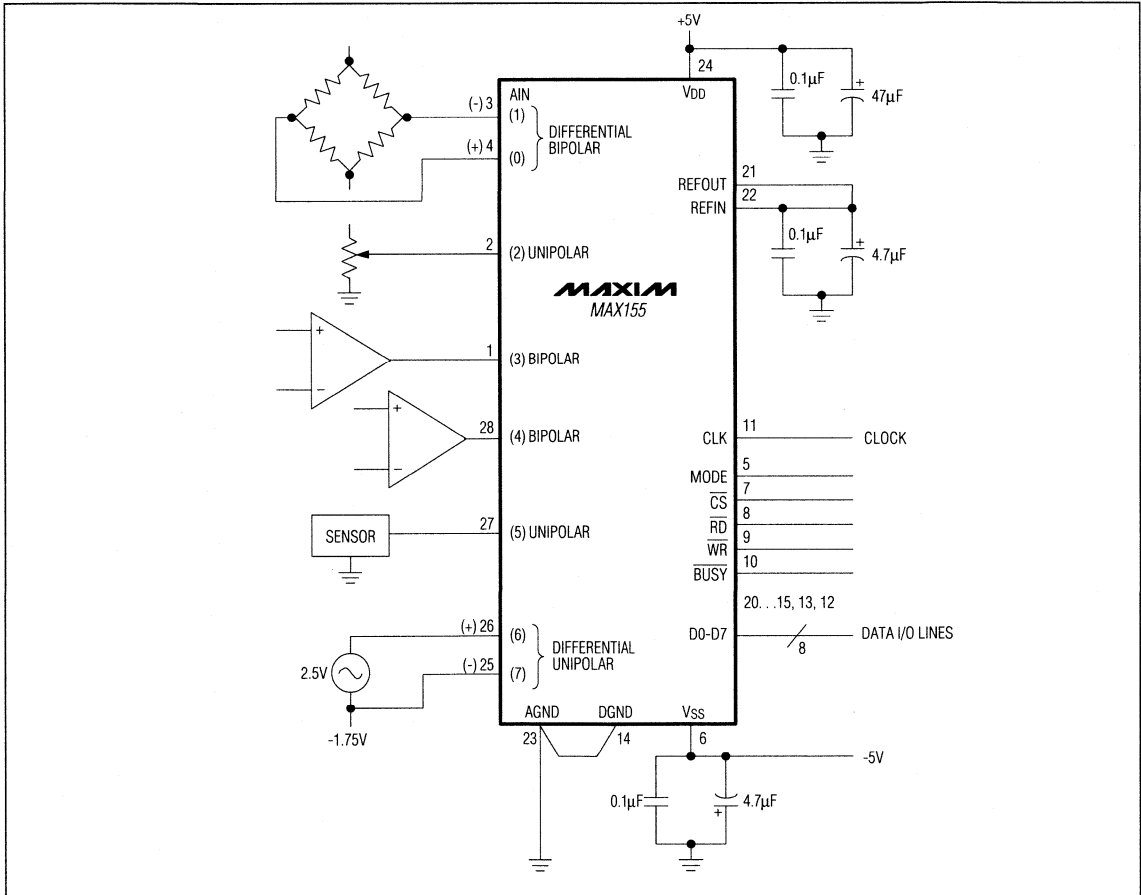

Figure 10. MAX155/MAX156 Typical Operating Circuit
where N is the number of channels converted. This includes one clock cycle of uncertainty. For a single channel and 5MHz clock, the conversion time is  $(9 \times 1 \times 2)/5MHz = 3.6\mu s$ . For the MAX155, the maximum conversion time for 8 channels is  $(9 \times 8 \times 2)/5MHz = 28.8\mu s$ . In the application example (Figure 10), six conversions are configured, and the conversion time is  $(9 \times 6 \times 2)/5MHz = 21.6\mu s$ .
MAX155/MAX156 address and configuration inputs for this example were determined by selecting the desired channel configurations in Tables 2 and 3. Figure 10 illustrates the configuration outlined in Table 5.
3. Data is read from RAM with  $\text{INH} = \text{L}$  and consecutive  $\overline{\text{RD}}$  strobes. Note that in the 6 channel configurations described in this example (Figure 10), 6  $\overline{\text{RD}}$  pulses access all available data, starting with the differential channel (1,0). Additional  $\overline{\text{RD}}$  pulses loop around, accessing the lowest channel data again.